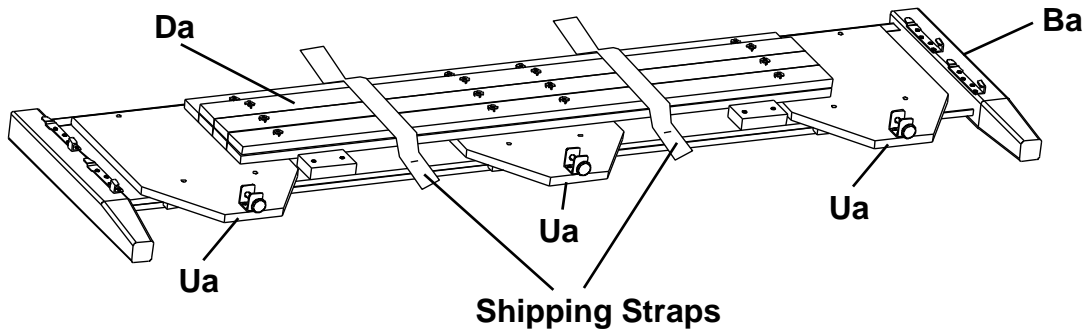

Fig. 1
1. Remove the Trestles (Da) and Assembled Foot (Ua) from the backs of the Footboard (Ba) and place them off to the side. See Figures 1 and 1a.